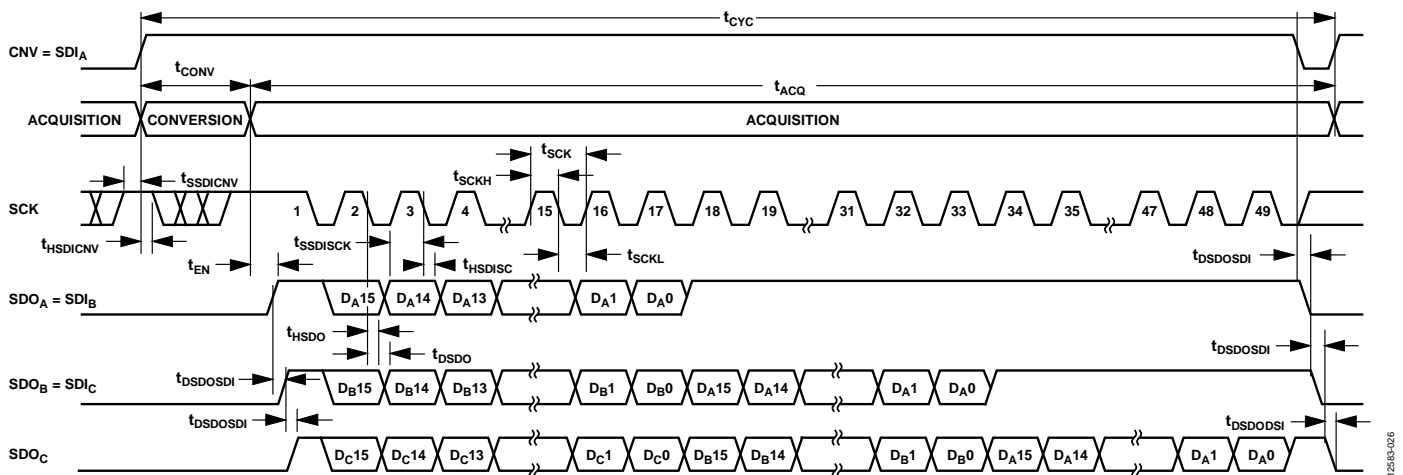
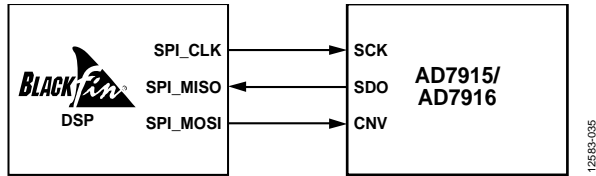

Figure 45. Chain Mode with Busy Indicator Serial Interface Timing
Figure 46. Typical Connection to Blackfin SPI Interface
- in chain mode if SCK is high during the CNV rising edge (see Figure 46).
A connection diagram example using three AD7915/AD7916 devices is shown in Figure 45, and the corresponding timing is given in Figure 46.
completed their conversions, the SDO pin of the ADC closest to the digital host (see the AD7915/AD7916 ADC labeled C in Figure 45) is driven high. This transition on SDO can be used as a busy indicator to trigger the data readback controlled by the digital host. The AD7915/AD7916 then enter the acquisition phase and powers down. The data bits stored in the internal shift register are clocked out, MSB first, by subsequent SCK falling edges. For each ADC, SDI feeds the input of the internal shift register and is clocked by the SCK falling edge. Each ADC in the chain outputs its data MSB first, and  $16 \times N + 1$  clocks are required to readback the N ADCs. Although the rising edge can be used to capture the data, a digital host using the SCK falling edge allows a faster reading rate and, consequently, more AD7915/AD7916 devices in the chain, provided that the digital host has an acceptable hold time.